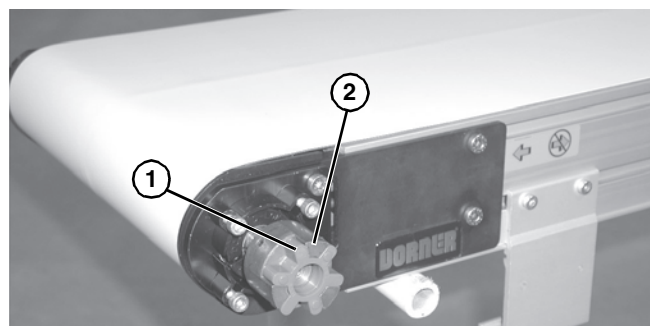

Figure 3
2. Install spider bushing (**Figure 3, item 1**) in three jaw coupling (**Figure 3, item 2**).